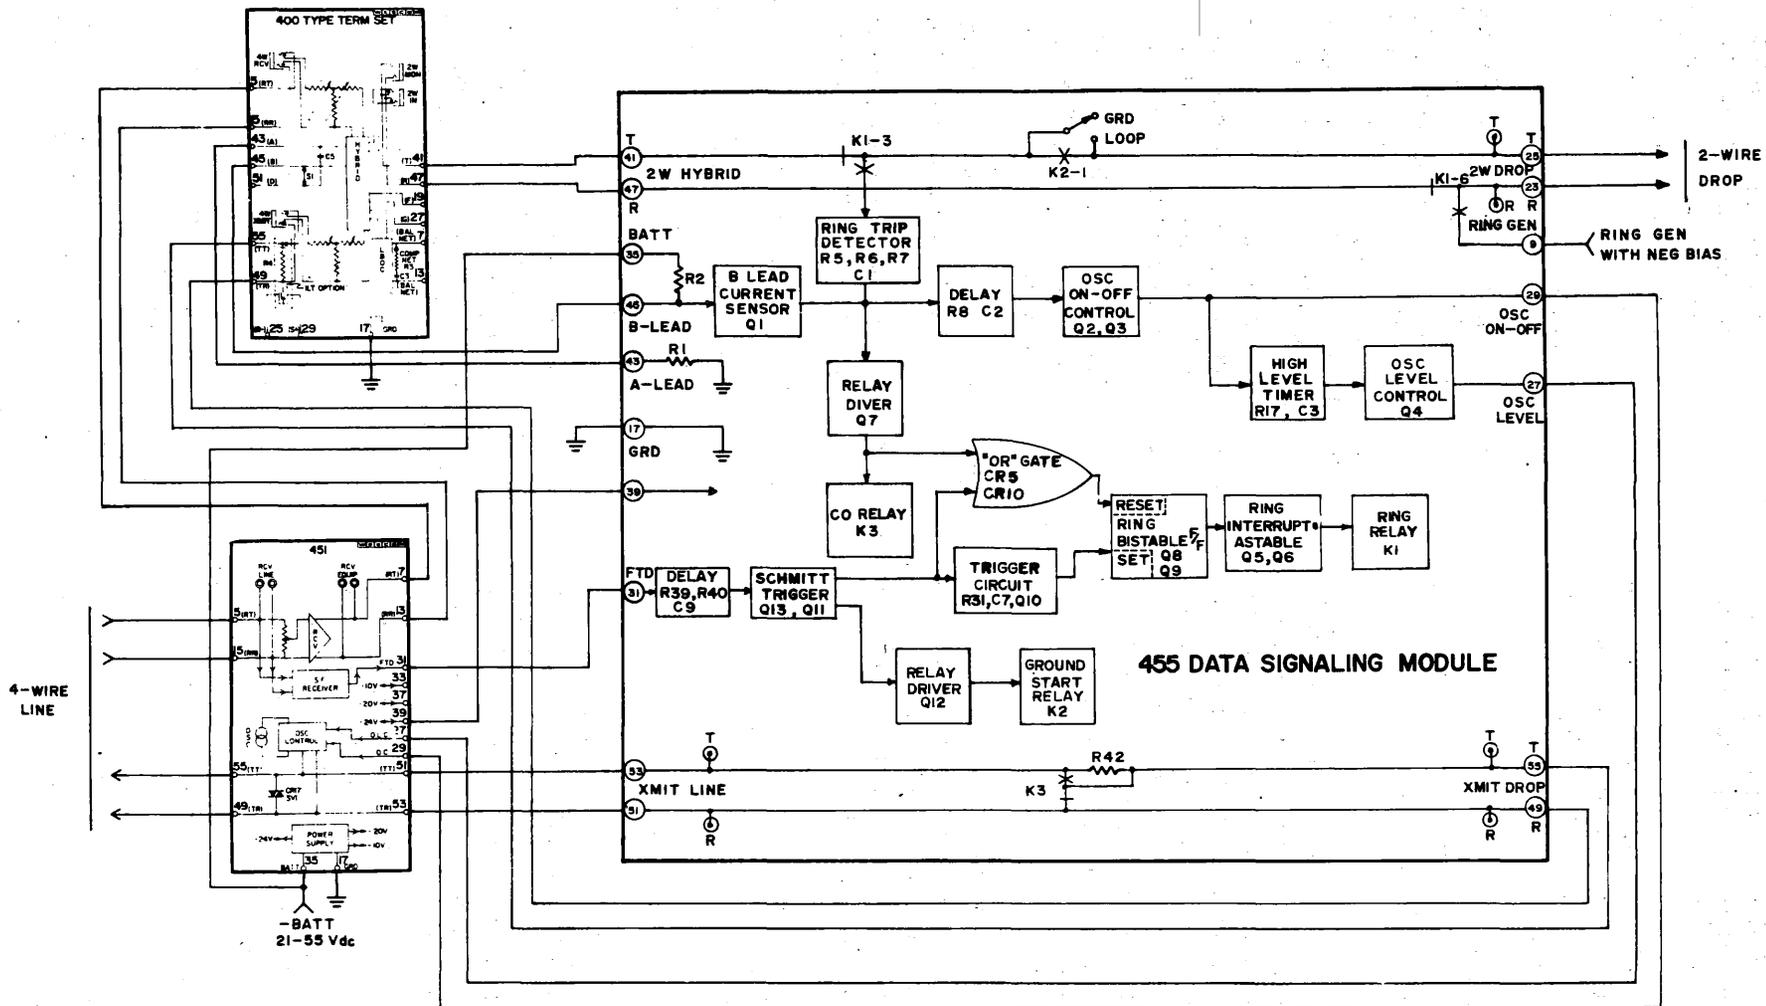

Figure 2. 455 System Functional Schematic Diagram
7.04 Refer to the 455 DATA ACCESS Functional Schematic (Figure 2) and the attached schematic diagrams for the 451